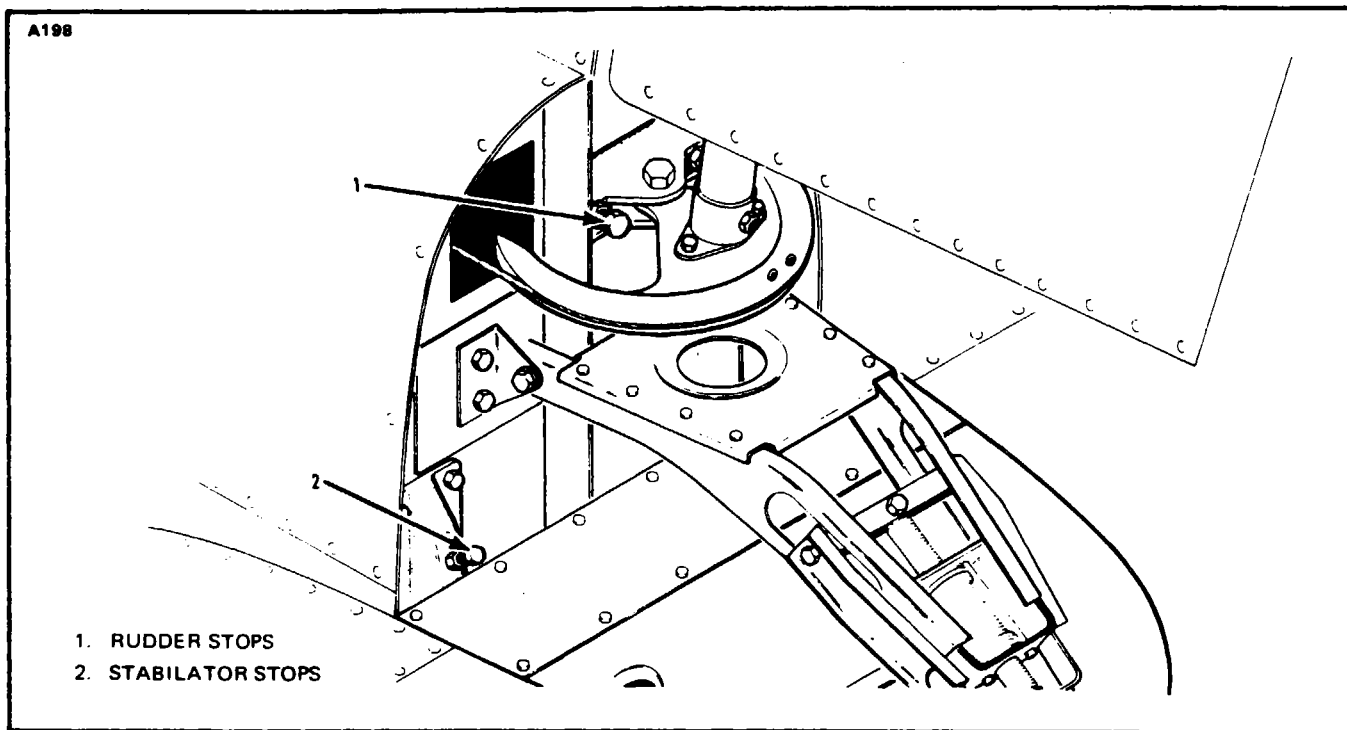

Figure 5-12. Rudder and Stabilator Travel Adjustment
4. Should the rudder travel be incorrect showing a gap between the tool and any part of the control surfaces, the tail cone should be removed and the stops reset to obtain correct rudder travel. (Refer to Figure 5-12.)